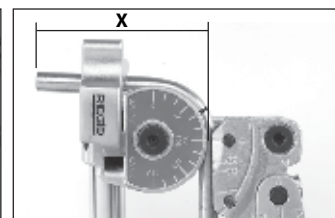

Figure 7 – After
• With the mark on the tube appropriately aligned, move the Carriage so that the “0” Line aligns with the 90 degree line on the Form. (See Figures 7 and 9 – After).
- Mark the tube at the desired distance (X) from the feature (end of tube, bend, etc). The center of the arc segment will be this distance from the feature.